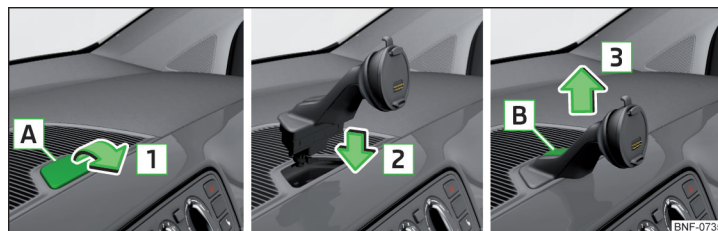

Fig. 84 Insert/remove fixture for the device
- Insert e.g. a coin in the opening **A** » Fig. 84 and carefully open the cap in the direction of arrow **1**.
- Grasp the fixture and press on the release key **B** » Fig. 84.